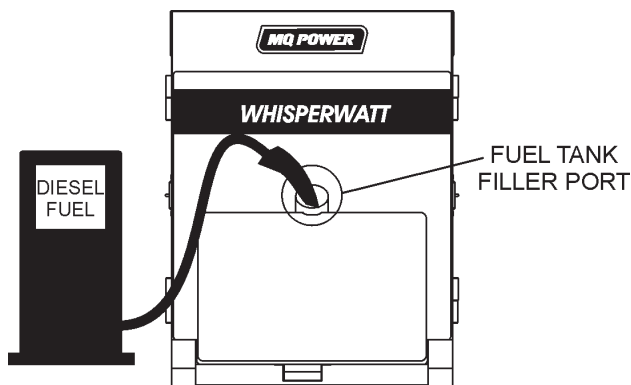

Figure 23. Fueling the Generator
2. Remove fuel cap (internal fuel tank) and fill fuel tank as shown Figure 23.